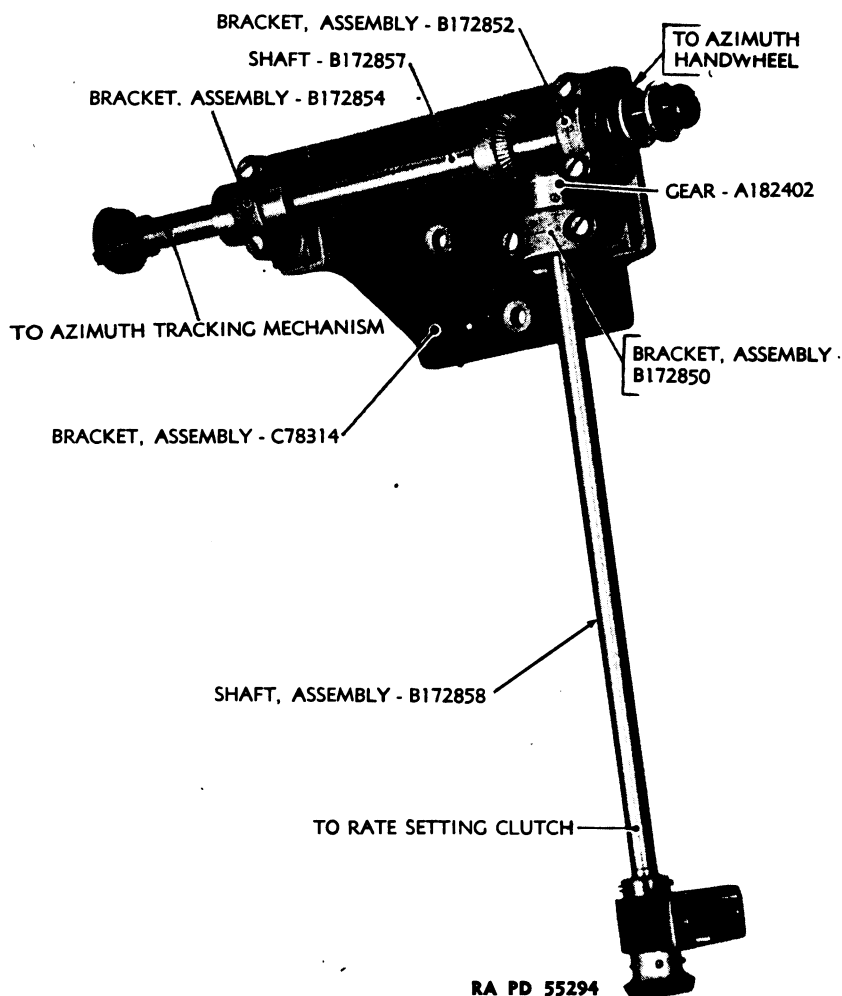

Figure 12 — Azimuth Differential Drive Shaft Group Assembly D43778
b. **Azimuth Differential Drive Shaft Group Assembly D43778** (figs. 12 and 13). This includes the azimuth handwheel shaft which